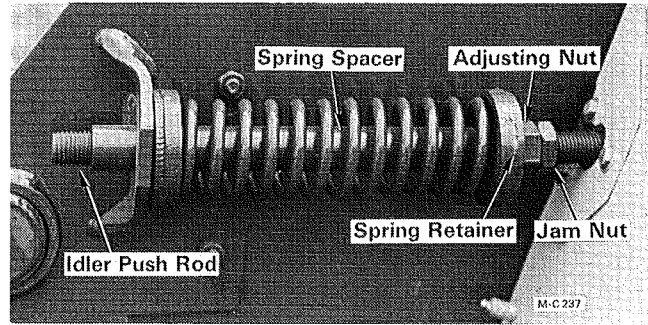

Figure 9
15. Turn the idler spring adjustment nut clockwise until the spring retainer is up to, but not tight against, the spring spacer, see Figure 9.
1. With the Shredder running, look at the idler push rod, Figure 9, to see if there is any back and forth movement. If there is, the belt tension needs to be adjusted.
2. Loosen the jam nut and tighten the adjusting nut one full turn, see Figure 9.